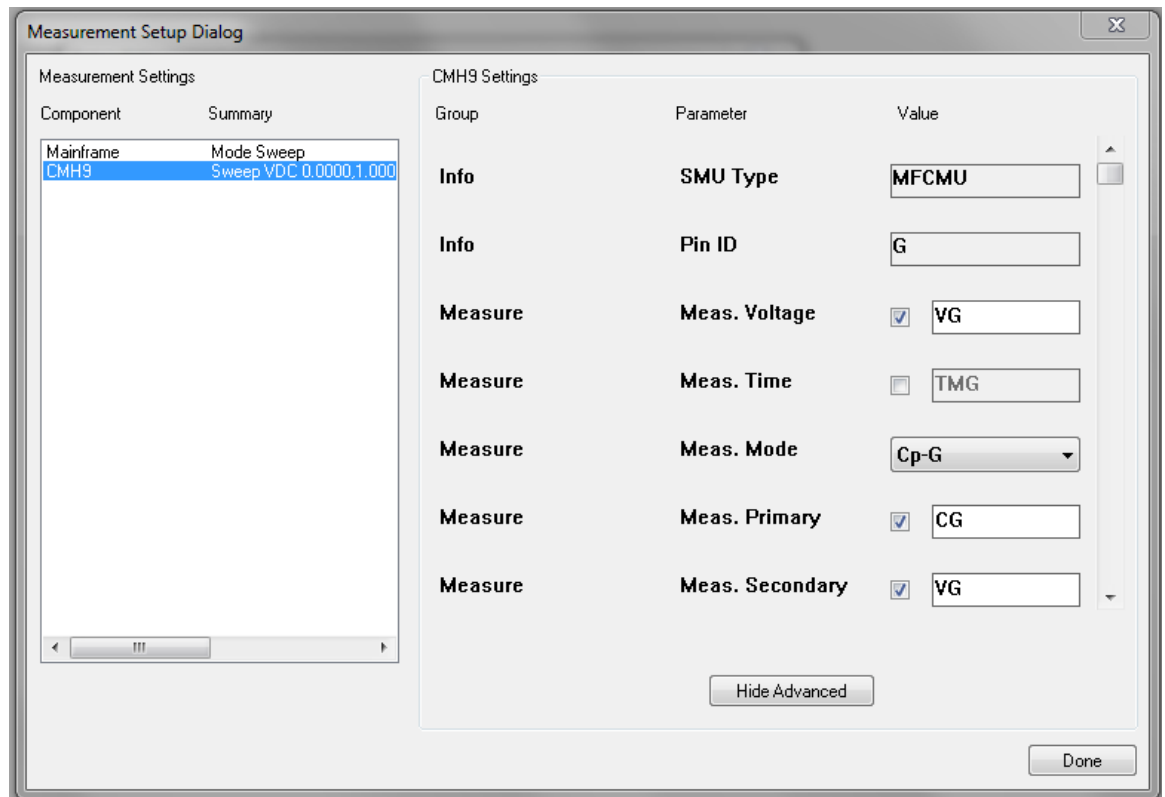

Figure 2: ATB1500 Setup Configuration for the C_g Test Setup
2. Configure the controls as shown in Figure 2. Use the mouse or TAB key to move between the different switches and fields.
5. Designate the independent variable of the plot by double-clicking on the appropriate data vector listed in the Data window. Two quantities were measured in the C_{ibo} test setup: capacitance and voltage. There should be two data vectors in the dialogue box Data window: "CPA" and "Bias" (according to the data vector labels specified in Figure 2). This example will create a plot of capacitance with respect to the voltage sweep. Since voltage will be the independent variable, select "Bias" for the X-axis.